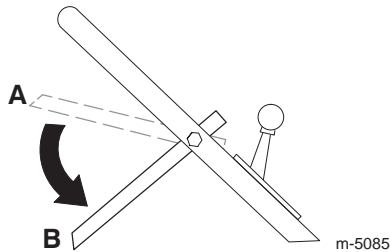

Figure 15
9. Release the blade control bail; refer to position B in Figure 15. You should hear a “bang.” The blade should stop in three seconds.